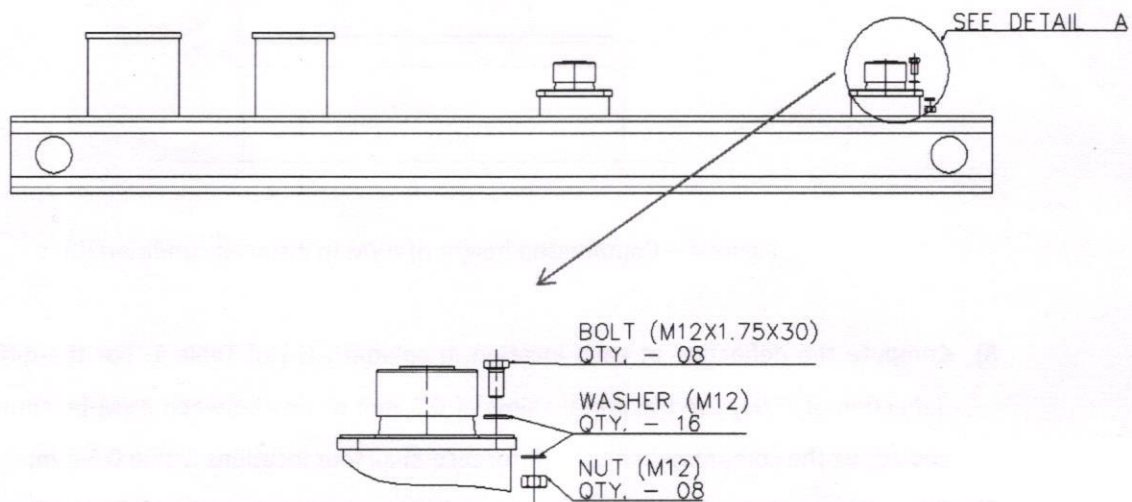

Figure 2 – AVM installation on base
- 2) Mount the AVM on the base plate for the KOEL respective engine model as shown in Fig. 2
- 4) Ensure all the four mounts are on its place on base and all fasteners are inserted before installing the engine on AVM as shown in Figure 2